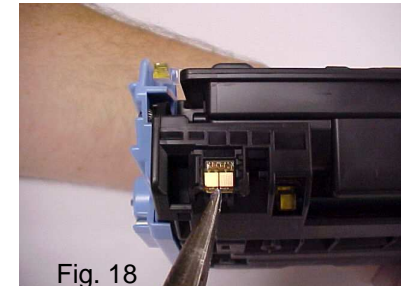

Fig. 18
18. Place a new chip into the housing (Fig. 18).